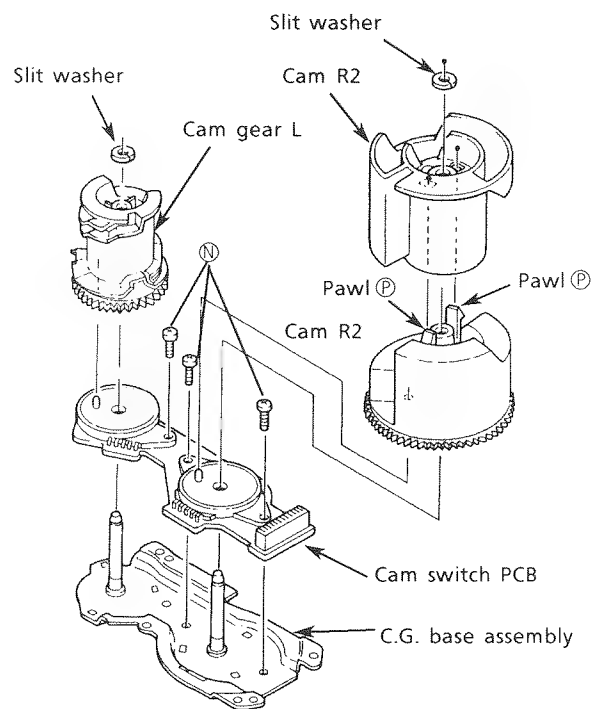

Fig. 48
(See Fig. 48.)
(30) Removal of C.G. base ass'y
Remove 3 screws ⑥ securing the C.G. base ass'y. (See Fig. 48 and 49.)